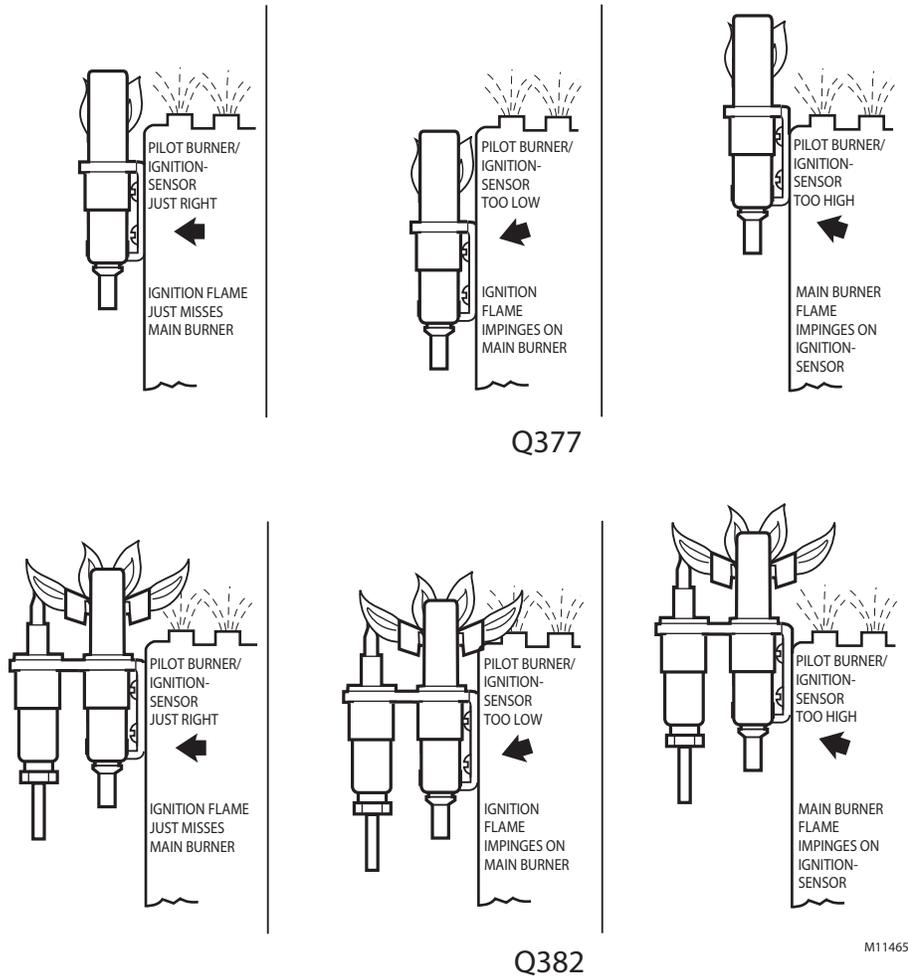

Fig. 18. Location of pilot burner (Q377 and Q382 shown)
3. Mount the pilot burner so the ignition flame remains properly positioned with respect to the main burner flame. See Fig. 18.